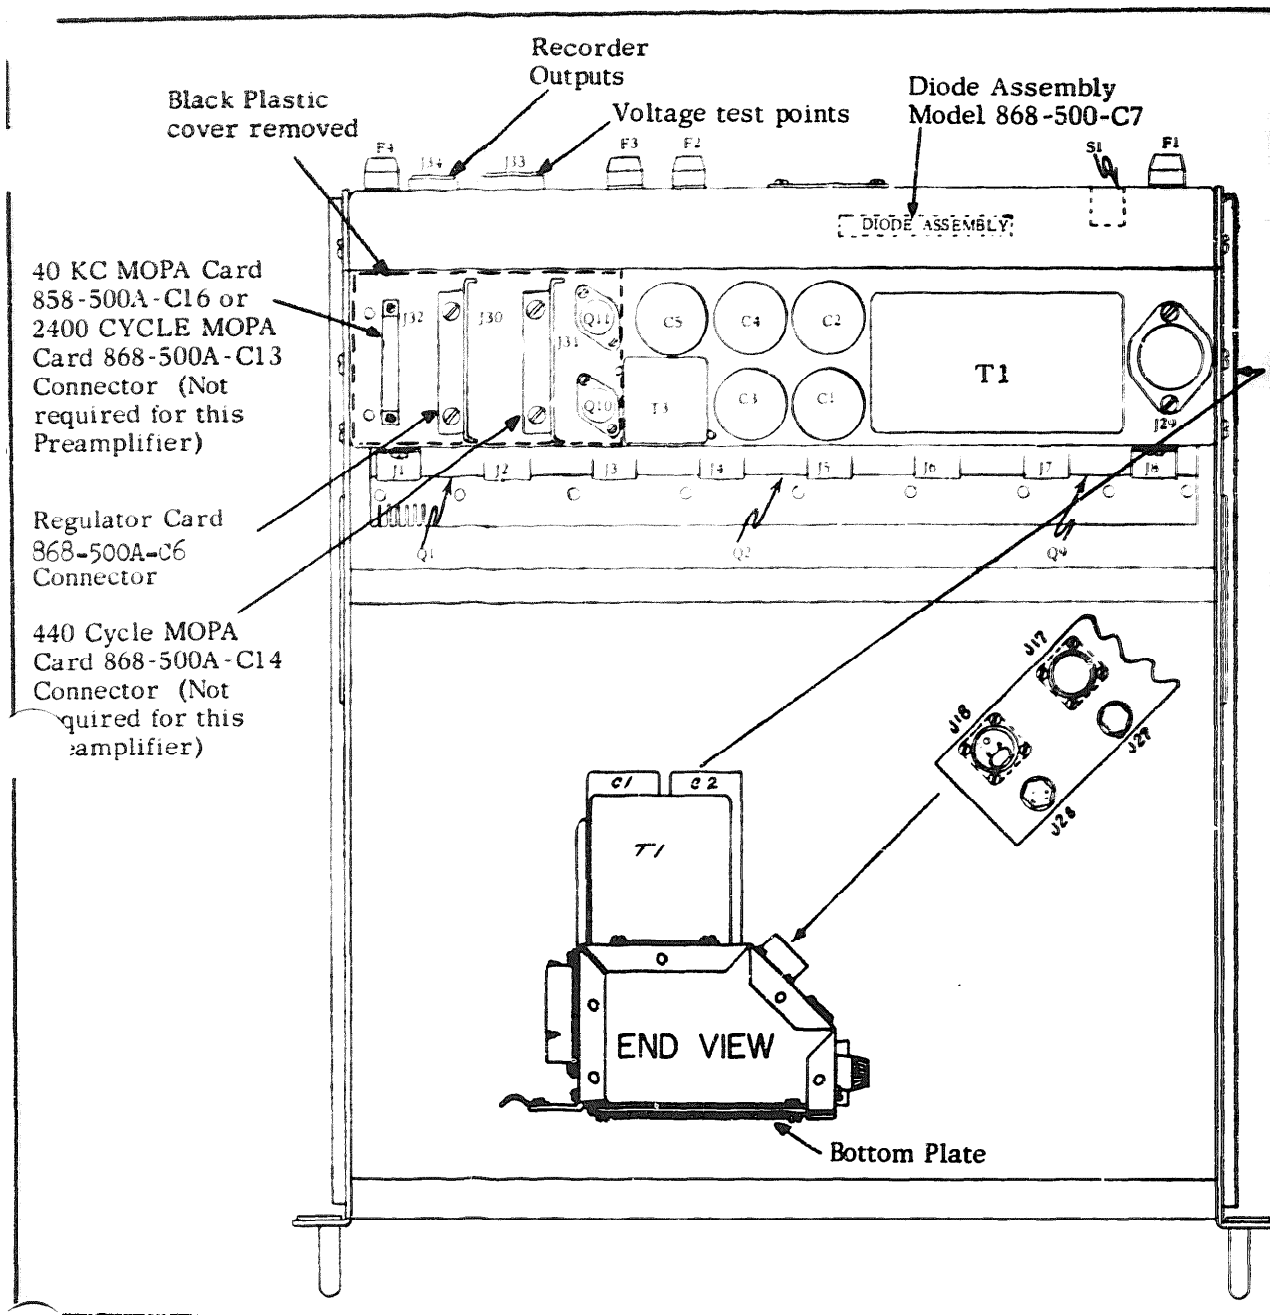

figure C-6. Preamplifier Power Supply (Top View)
- (1) Remove the white nylon screw that is on the black cover.
- (2) Remove the first two amplifiers on the left (viewed from the front). This will make the second screw to be removed from the black cover available. Remove this screw and remove the cover.
- (3) Locate card(s) to be removed using figure C-6 as a guide.
- (4) Remove the two screws that secure the card to the chassis, then pull the card out of its connector.